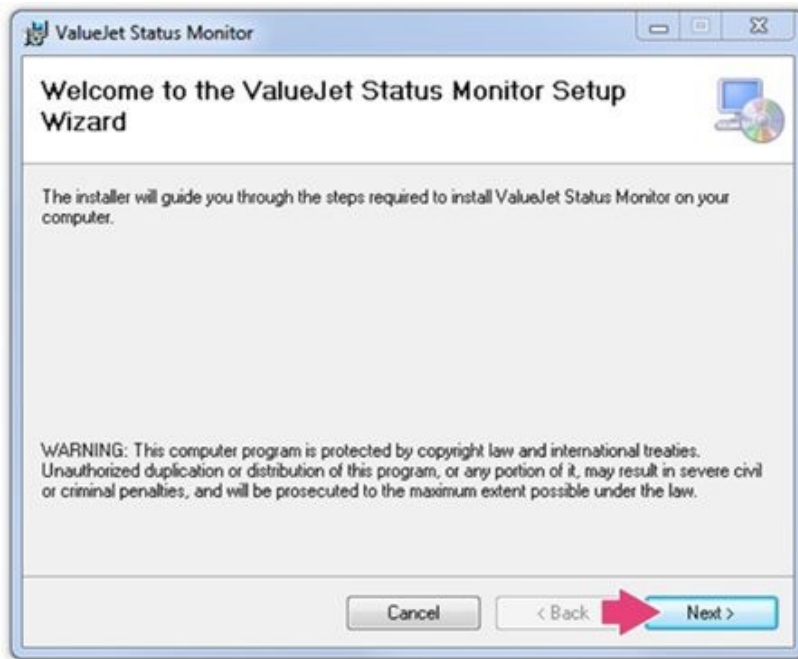

Figure 37
24. The ValueJet Status Monitor Setup Wizard will guide you through the steps to install the Status Monitor on your computer. Select **Next**. See Figure 37.